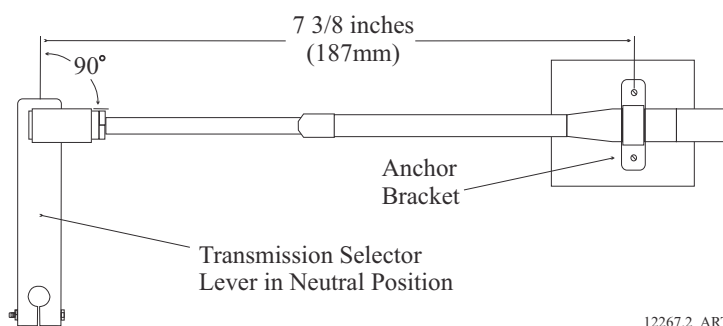

Figure 4-30: Shift Push-Pull Cable Neutral Connection at Transmission
- C With the Shift Push-Pull cable disconnected at the clutch selector lever, adjust the Shift cable's ball joint at the transmission to align with the clutch selector lever at Neutral. The push-pull cable must form a 90 degree angle to the clutch selector lever. (Refer to Figure 4-30: Shift Push-Pull Cable Neutral Connection at Transmission)